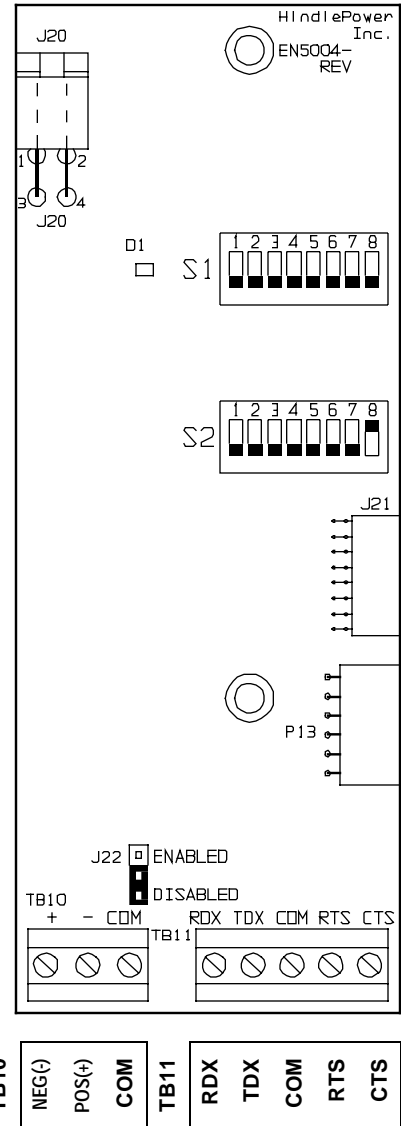

Figure 2
- Step 5** Connect the ballast resistor(s) (R29) to the power supply connection plug (J20). Pin 2 on J20 is +Vdc and pin 4 is common. See **Figure 2**.